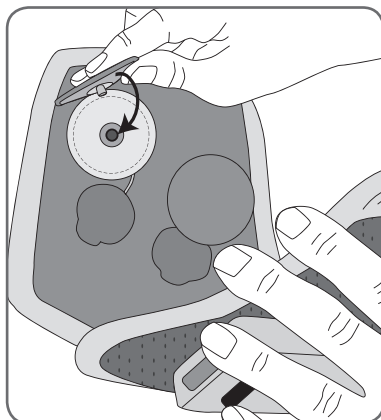

Figure 58: Attaching the cloth electrodes to the cloth electrode bases.
6. Attach the L300 cloth electrodes to the L300 cloth electrode bases. See Figure 58.